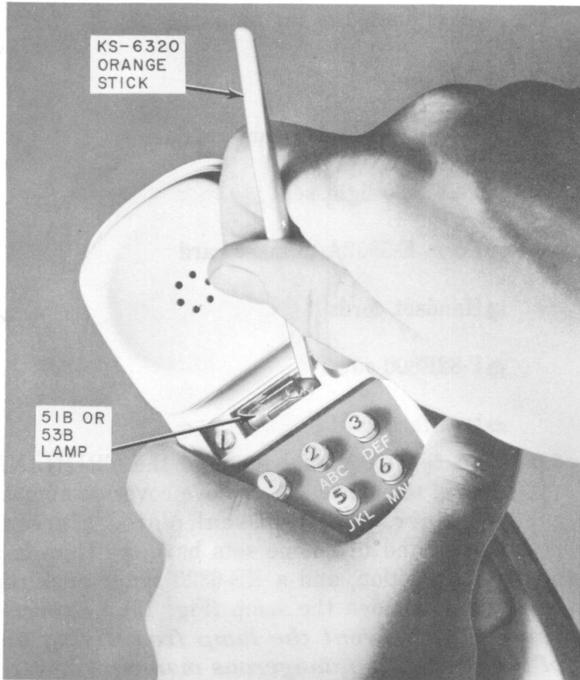
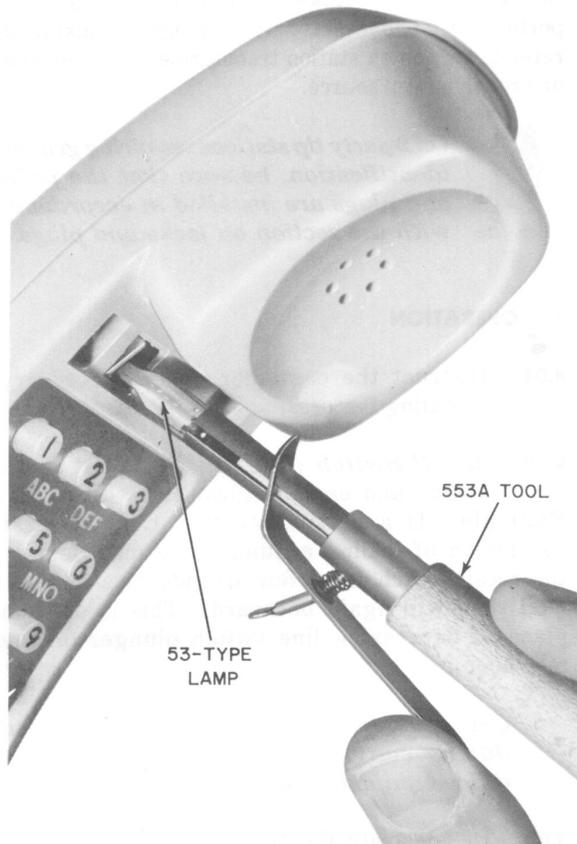

Fig. 10—Removing Dial Lamp From Current Production 2220B Hand Telephone Set
Fig. 11—Replacing Dial Lamp in Early Production 2220B Hand Telephone Set
5.05 To replace a dial lamp in the TRIMLINE hand telephone set, remove cover or number card retainer, and light-seal plate. Current production hand telephone sets have the lamp in a horizontal position, and a KS-6320 range stick can be used to remove the lamp (Fig. 10). ***Exercise caution to prevent the lamp from flying out of the socket in a dangerous manner.*** In early production hand telephone sets use a 553A tool to remove the lamp from its vertical position (Fig. 11).